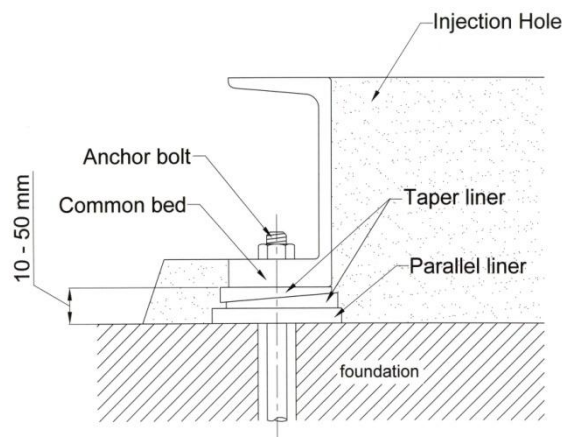

Fig. 7
- (1) After chipping the foundation, arrange one parallel liner and two taper liners on both side of the anchor bolt hole of the base as shown in Fig. 7.
- (2) Place the pump plus common bed on these liners and install the anchor bolt in the anchor bolt hole.
- (3) Determine the position and height of the pump level by using the casing machined surface, to obtain a horizontal of 0.1 mm/m as the reference value. The pump height can be easily adjusted with taper liners.
- (4) After installing anchor bolt, pour mortar into the anchor bolts holes and allow to be harden. Mortar will harden in about 4 days, although this period more or less differs according to the open air temperature, humidity and the compound ratio.
- (5) After the mortar has hardened, arrange the liners used in paragraph (1) as close to and on either side of the anchor bolt. If the distance between anchor bolts exceeds 1m, install additional liners between these anchor bolts.